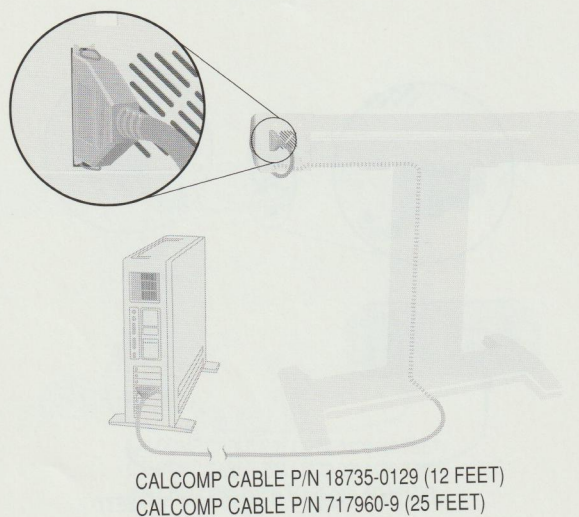

Figure 2-8. Centronics (Parallel Port) with IBM PS/2 or Equivalent
- IBM PS/2 or equivalent (Figure 2-8)